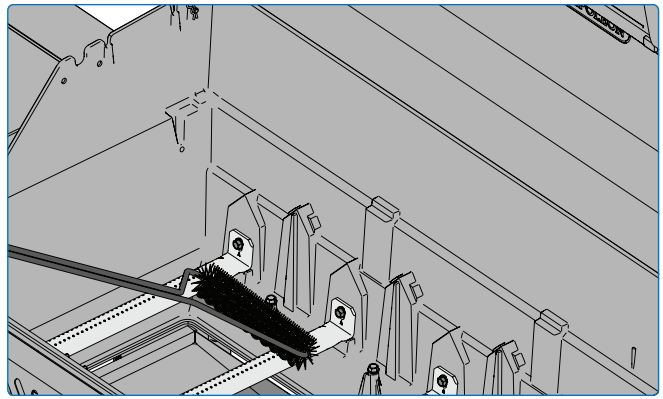

Fig. 21
5. Sweep all remaining debris from inside the grill into the drip pan (**Fig 21,22**).